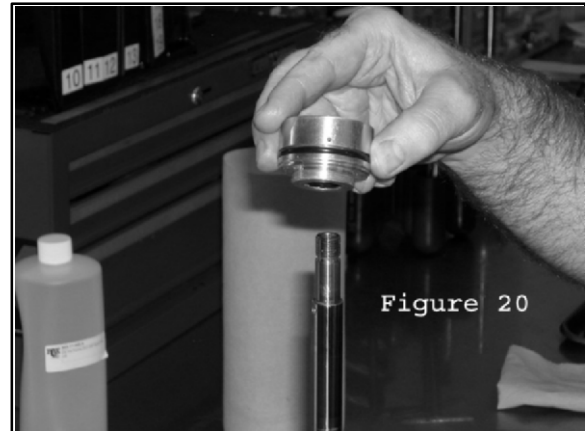

Figure 20
45. Slide bearing assembly off of shaft. Use extreme caution not to scratch inside of the bearing assembly when passing it over the threads at end of shaft. (Fig. 20)